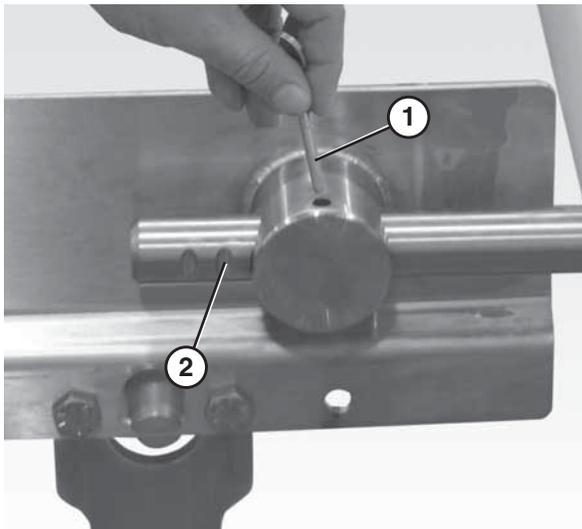

Figure 59
1. Remove both pull pins (**Figure 59, item 1**) on the tension end of the conveyor.
2. Extend the idler tail to the next groove (**Figure 59, item 2**) on the bearing shaft.